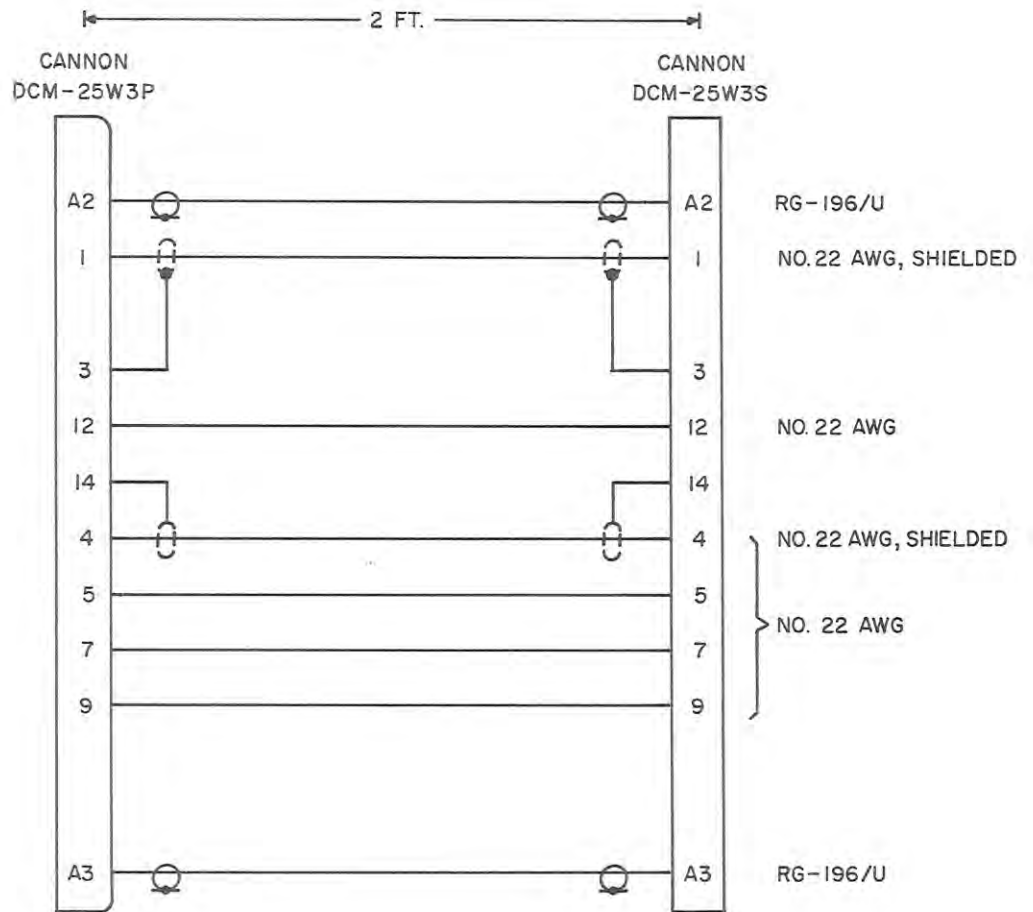

Figure 5-4. Power Extender Cable.
When faulty receiver operation has been traced to the plug-in tuning unit, the following minimum performance standards charts will assist in further localizing the difficulty to a particular module or circuit. Before attempting to evaluate the performance of the tuning unit, be assured that the receiver power supplies are functioning normally in accordance with paragraph 4.A. (4) of NAVSHIPS instruction manual 0967-282-0010. Figure 5-4 illustrates the power extender cable which is required to operate the tuning unit outside the receiver housing. The performance standards for the various modules of the tuner are given in Tables 5-3 through 5-5.
1. TN-519/WRR RF tuner connected to right hand tuner receptacle of Countermeasures Receiver R-1524(P)/WRR with extender cable (Figure 5-4).
- NOTES: 1. TN-520/WRR RF tuner connected to right hand tuner receptacle with extender cable (Figure 5-4).
- NOTES: 1. TN-519/WRR RF tuner connected to right hand tuner receptacle of Countermeasures Receiver R-1524(P)/WRR with extender cable (Figure 5-4).
Alignment of the 250 to 500 mc RF tuner is divided into tuning head and 60 to 21.4 mc converter alignment. Countermeasures Receiver R-1524(P)/WRR and the tuner should be placed on a workbench adjacent to the test equipment being used for alignment to facilitate the use of short cables and test leads. The power extender cable illustrated in Figure 5-4 should be connected between the rear of the tuning unit and the right hand connector J5 on the main chassis of the receiver. Place the following receiver front panel switches and controls to the positions indicated below before performing alignment.